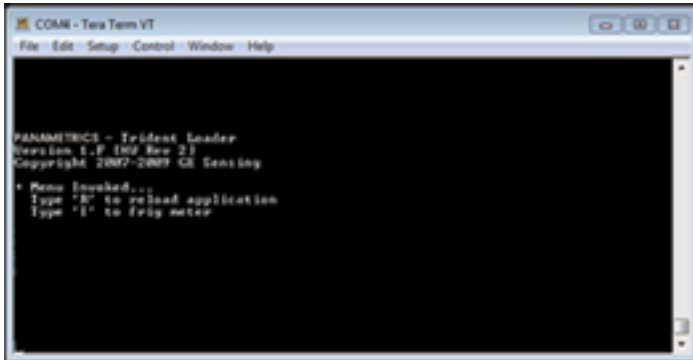

Figure 82: Tera Term Awaiting input
1. Power on the **Sentinel LCT8**, then launch the *Tera Term* software and press **ESC** on your PC keyboard. The Tera Term terminal window indicates that the meter is awaiting your input, as in *Figure 82* below.